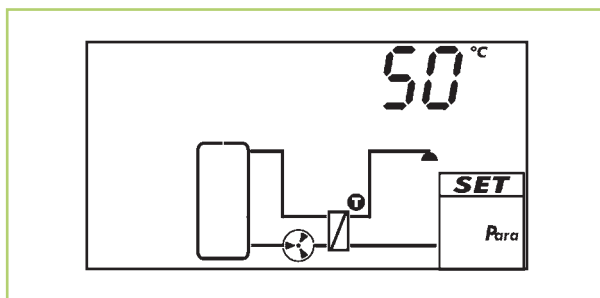

Fig. 9: Set the domestic hot water target temperature
1. ➤ Press "SET". The domestic hot water target temperature is displayed, the corresponding component  in the system diagram flashes (Fig. 9).